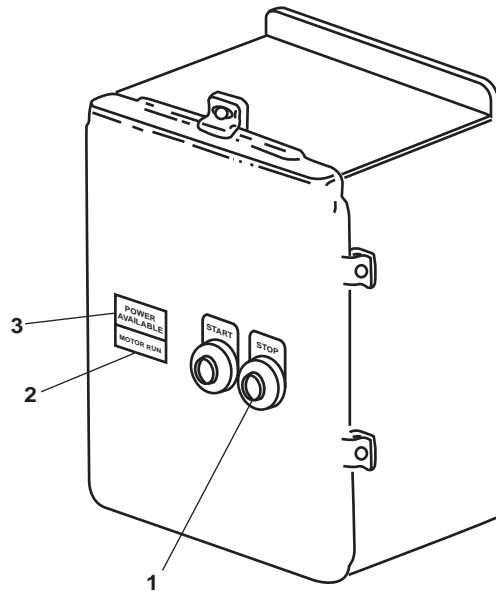

Figure 2. Hot Water Recirculating Pump Motor Controller
- a. Press and release the STOP pushbutton (figure 2, item 1).
- b. Verify that the MOTOR RUN indicator (figure 2, item 2) goes out.
4. At the hot potable water recirculating pump motor controller, verify that the POWER AVAILABLE indicator (figure 2, item 3) goes out.